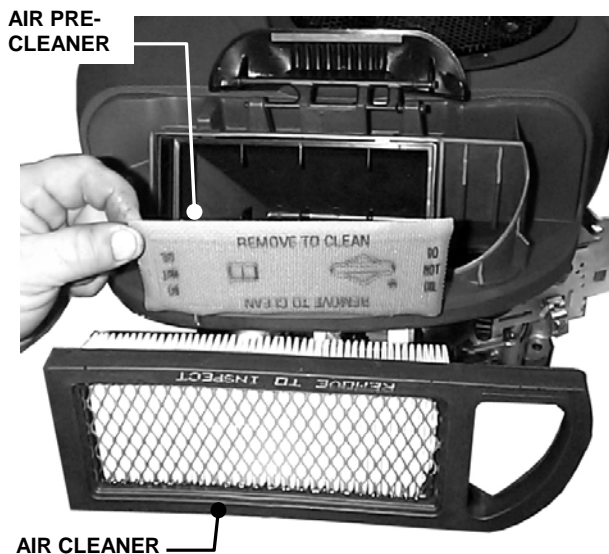

FIGURE 3.5
a. Refer to engine owner's manual for cleaning and service instructions. Remove and clean engine air pre-cleaner. See Figure 3.5. Install pre-cleaner and air cleaner per engine owner's manual.